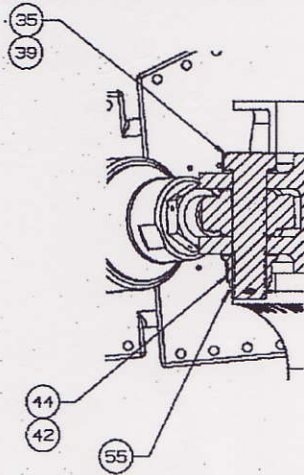

Figure 2-1
As shown in Figure 2-1, install the Diagonal Strut Assemblies to the STA VC by installing one (1) Washer, Flat P/N NAS1149E1632R, item 42; one (1) Washer, CSK, P/N NAS1587-16C, item 39; one (1) Nut, Self Locking, P/N NAS1805-16, item 44; and one (1) Pin, Clevis, VC, Diagonal Bracket P/N SDG39135744-003, item 35. Tighten the nuts until they bottom out. Do not torque. Use grease on threads
8. As shown in Figure 2-1, install other end of the Diagonal Strut Assemblies to the USS-02 by installing one (1) Washer, Flat P/N NAS1149E1632R, item 42; one (1) Washer, CSK, P/N NAS1587-16C, item 39; one (1) Nut, Self Locking, P/N NAS1805-16, item 44; and one (1) Pin, Clevis, USS-02, Diagonal Bracket P/N SDG39135744-002, item 52 Tighten the nuts until they bottom out. Do not torque. Use grease on threads
9. Install the four (4) cotter pin, MS24665-306, item 55 in Figure 2-1 to all self locking nuts, item 44.